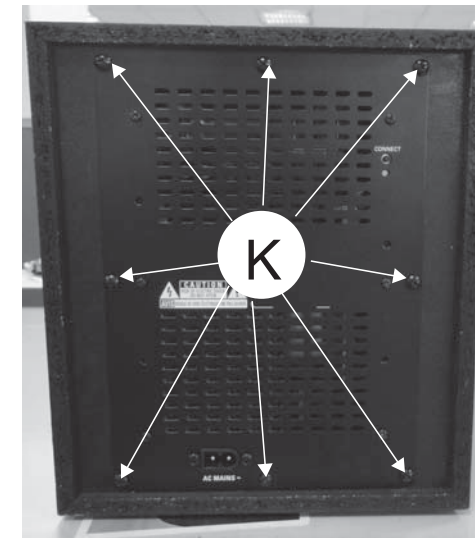

Figure 12
1) Loosen 8 screws "K" to remove the back panel as shown in figure 12.